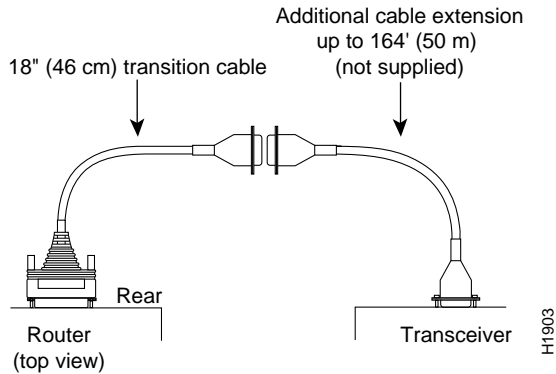

Figure 3 Extending the Transition Cable from the Router's Ethernet Port
Step 2 Extend the Ethernet cable as shown in Figure 3.